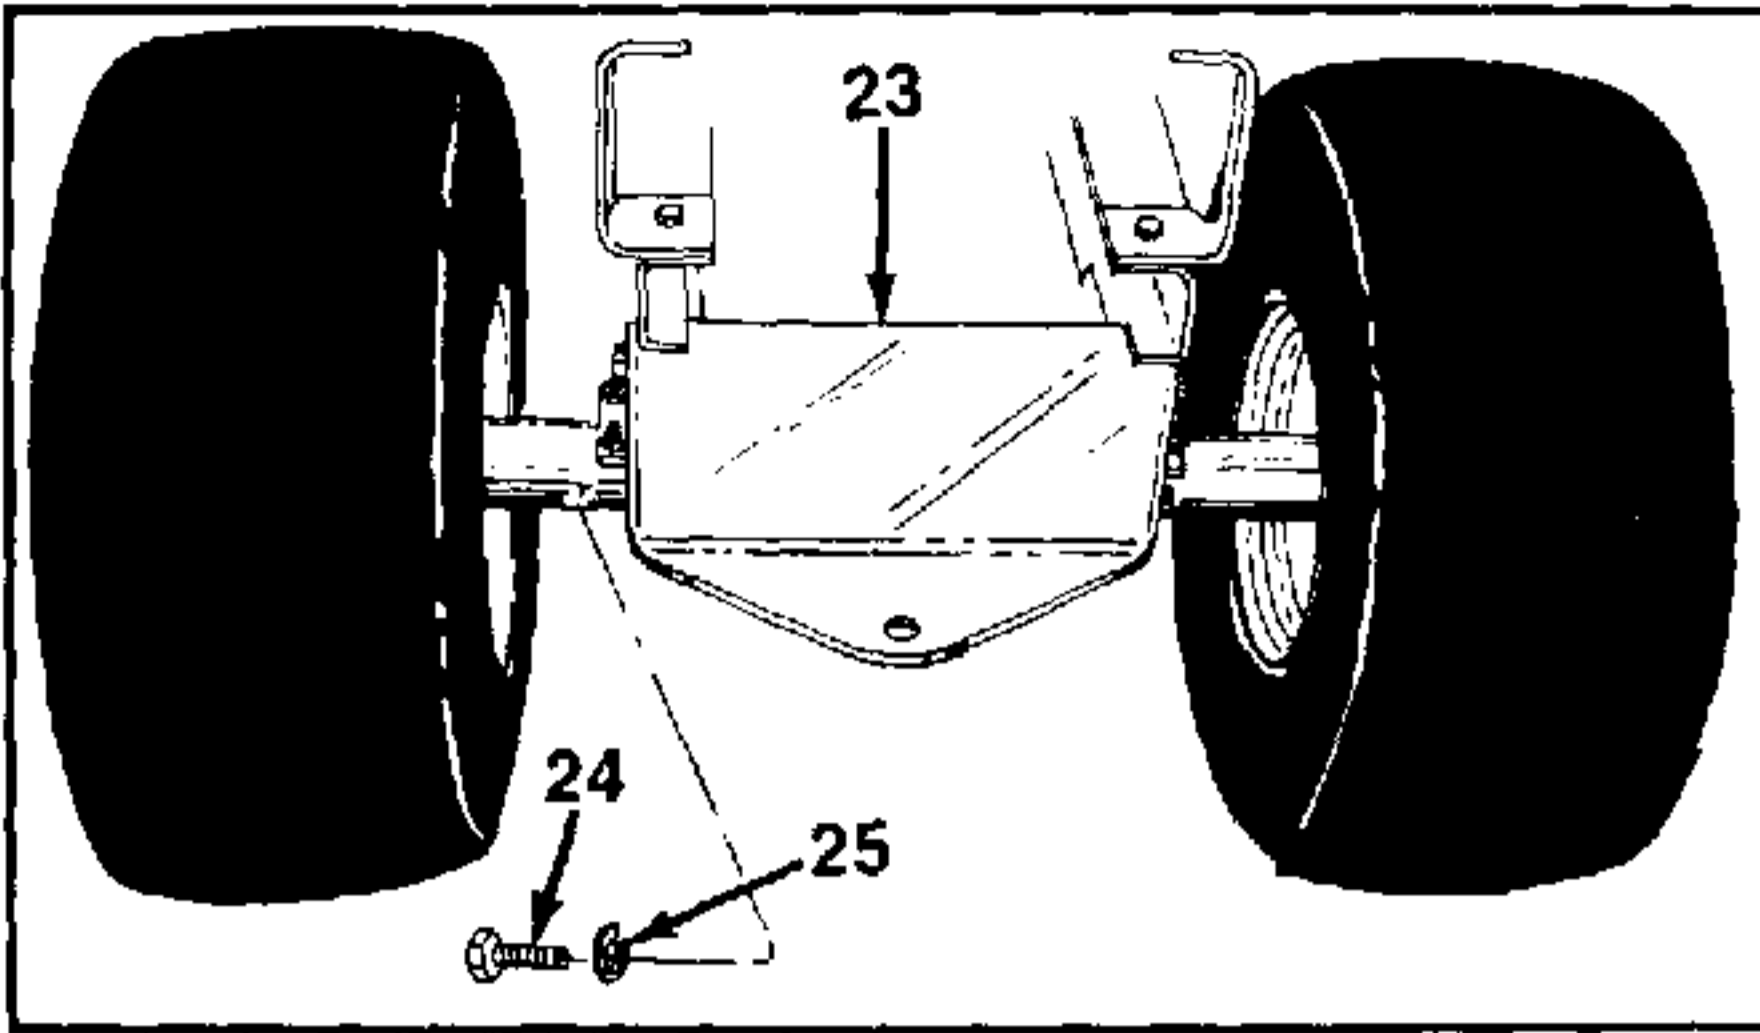

FIGURE 10.
16. Remove four hex bolts (Ref. 24) and lock washers (Ref. 25), which hold the draw bar hitch plate (Ref. 23) to the chassis. See figure 10.
NOTE: Wheel shown removed in figure 10 for clarity only.